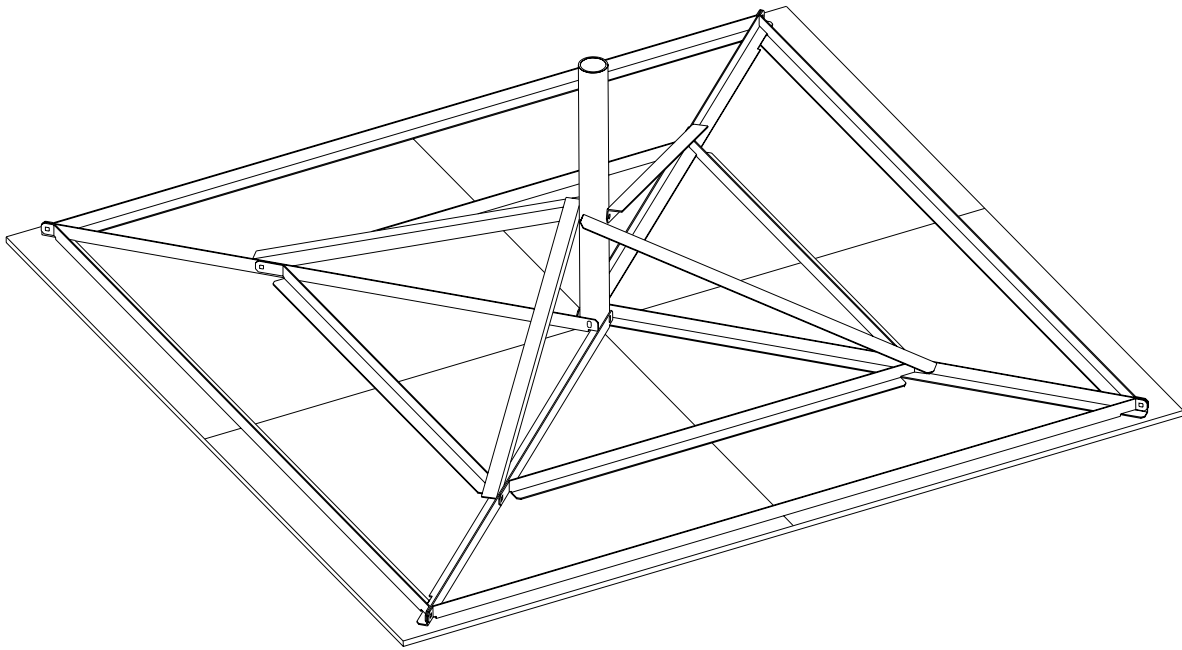

Figure 1
A). Attach the (4) mast brace angles (item 5) to the mast pipe with 3 / 8" hardware (items 7, 9, 10 & 11). Each brace must attach to the side of the mast pipe opposite its corresponding diagonal brace. Refer figures 1 and 2. Snug only.
A). Position the (4) inner brace angles (item 3) as shown. Use Step 8 below for reference to the angle orientation.
- A). Attach the inner brace angle (item 3) to the mast brace angle and diagonal base angle with 3 / 8" hardware (items 8, 9, 10 & 11). Note the orientation of the angles.